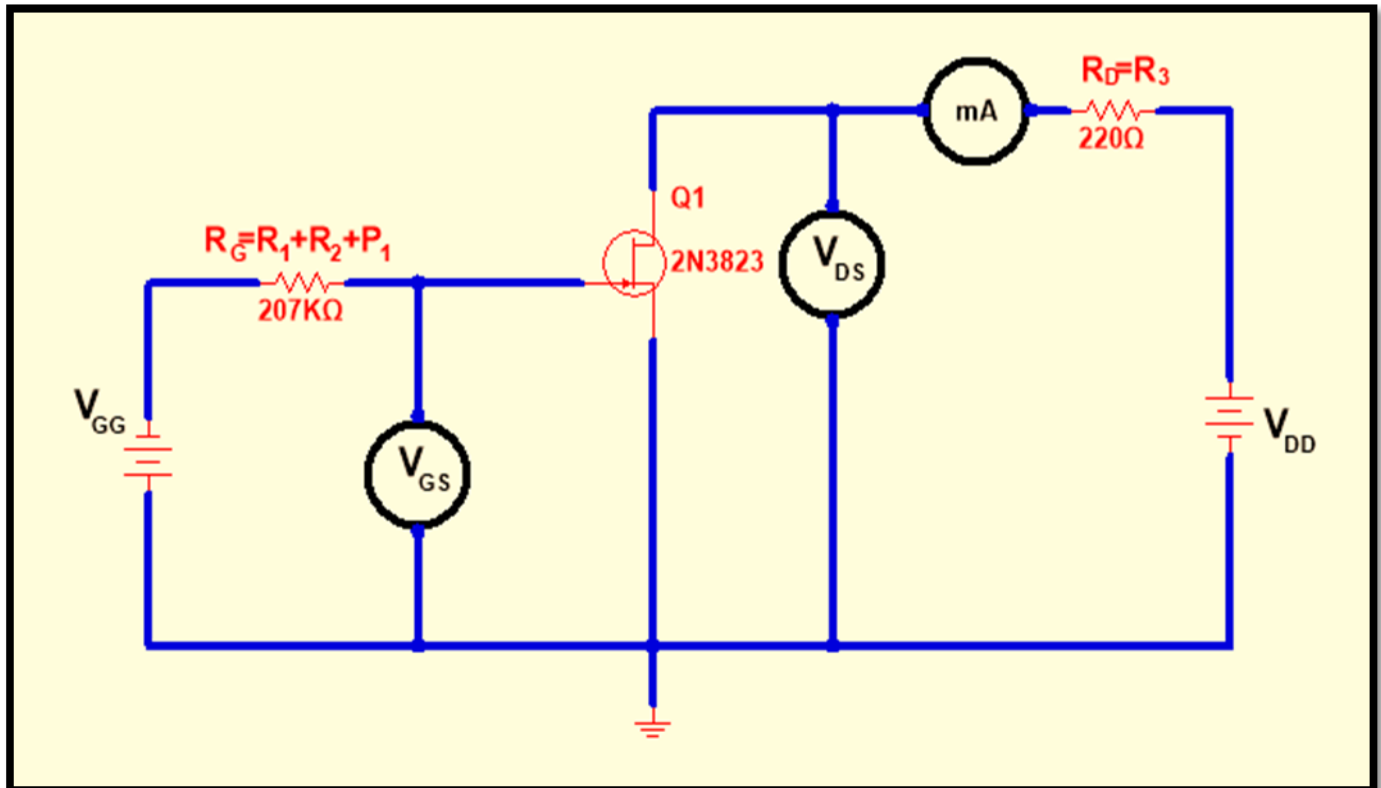

Figure 6: The Test Circuit for Getting JFET Characteristics
1. Connect the circuit shown in Fig.6.